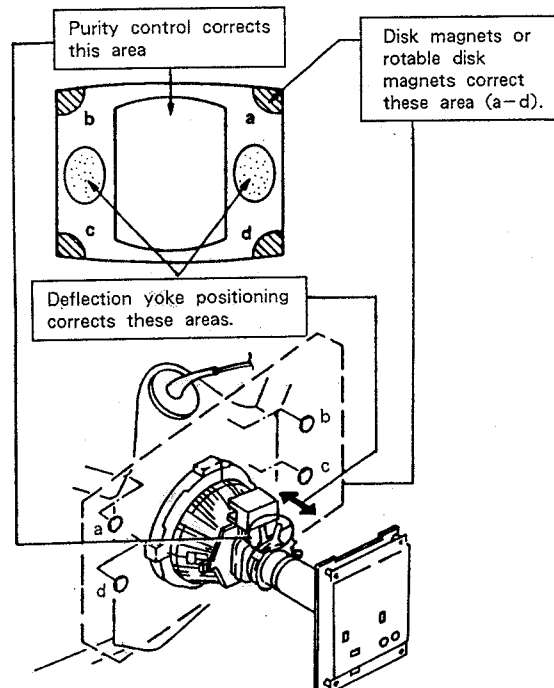

Fig. 3-3
7. When landing at the corners is not right, correct by using the magnet. (Fig. 3-3)